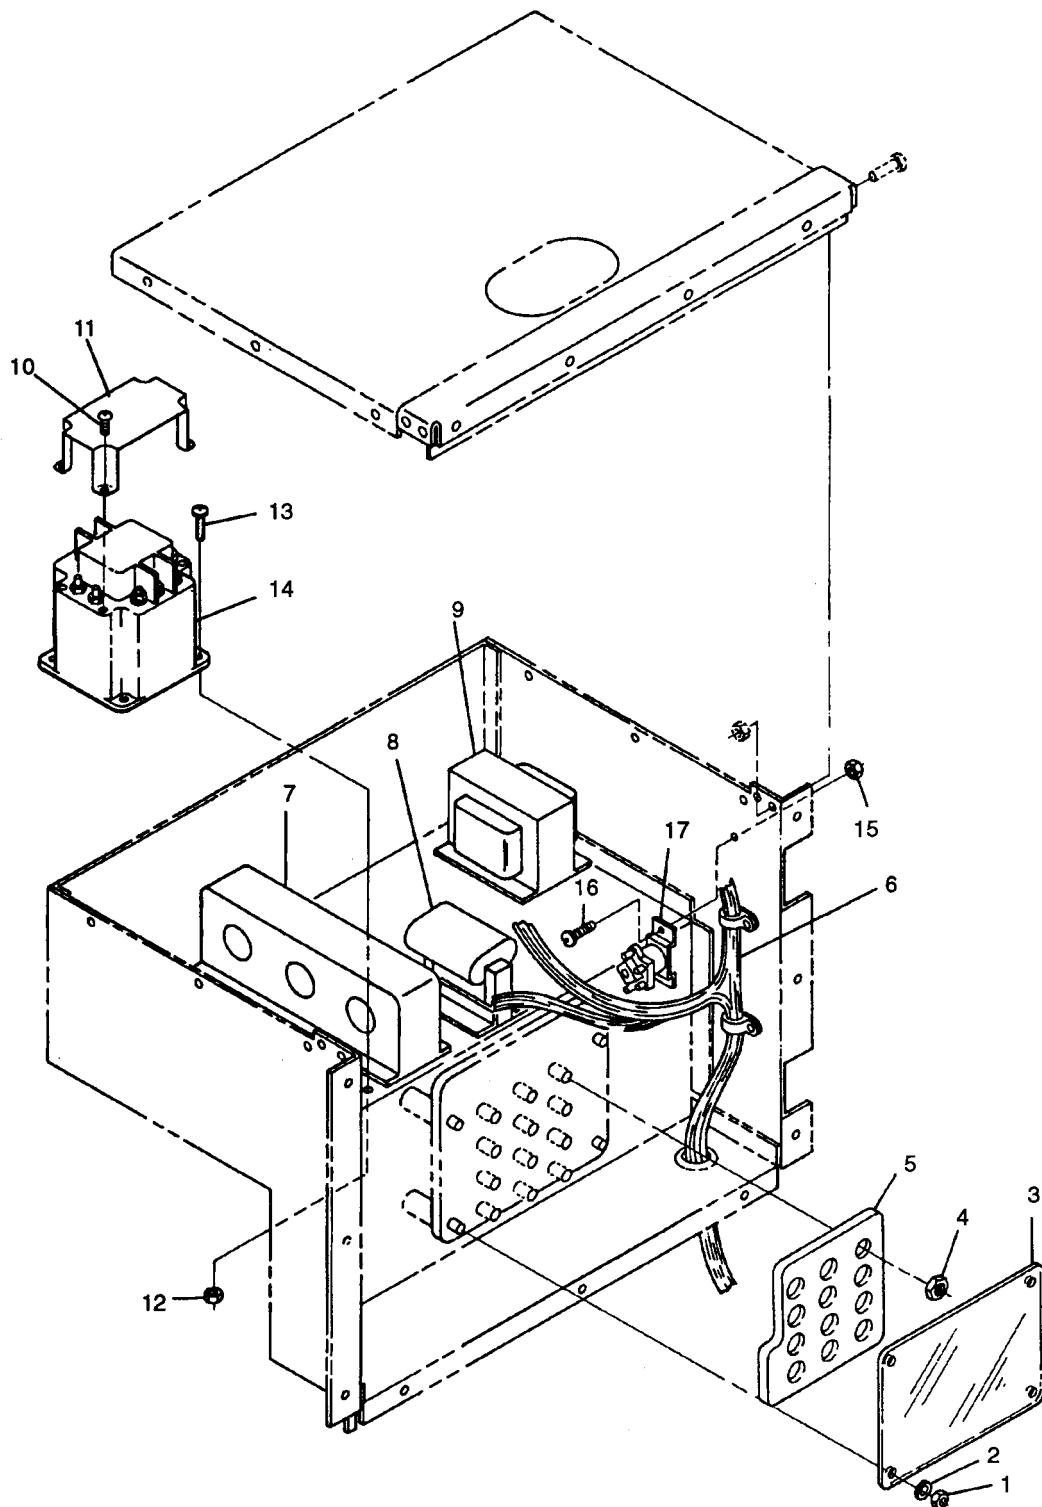

FIGURE 2-28. Output Box Assembly
- c. Inspect protective cover (3, FIGURE 2-28) and moveable terminal board (5) for cracks, breaks, corrosion, and other damage.
- d. Remove nuts (1, FIGURE 2-28), washers (2), and protective cover (3) from voltage reconnection terminal board assembly.
- e. Remove nuts (4) and moveable terminal board (5) from voltage reconnection terminal board assembly.
- a. Install moveable terminal board (5, FIGURE 2-28) on voltage reconnection terminal board assembly with nuts (4).
- b. Install protective cover (3) on voltage reconnection terminal board assembly with washers (2) and nuts (1).
- b. Inspect wiring harness (6, FIGURE 2-28) for burned, bent, corroded, and broken terminals.
- c. Inspect current transformer (7, FIGURE 2-28) for security, cracked housing, broken or stripped terminals, and loose or missing hardware.
- d. Tag and disconnect electrical leads from current transformer (7, FIGURE 2-28) secondary terminals.
- c. Inspect droop current transformer (8, FIGURE 2-28) for cracked housing, security, broken wire terminals, loose or missing hardware, and other damage.
- c. Inspect power potential transformer (9, FIGURE 2-28) for security, cracked housing, broken wire terminals, loose or missing hardware, and other damage.
- c. Inspect AC circuit interrupter relay (14, FIGURE 2-28) for security, cracked housing, broken wire terminals, and other damage.
- d. Remove screws (10, FIGURE 2-28) and cover (11) from AC circuit interrupter relay (14).
- e. Tag and disconnect AC circuit interrupter relay (14) electrical leads.
- f. Remove screws (13), nuts (12), and AC circuit interrupter relay (14) from output box.
- a. Install AC circuit interrupter relay (14, FIGURE 2-28) in output box with screws (13) and nuts (12).
- c. Install cover (11) on AC circuit interrupter relay (14) with screws (10).
- c. Inspect cranking relay (17, FIGURE 2-28) for security, cracked housing, broken wire terminals, and other damage.
- d. Tag and disconnect wires from terminals X1, X2, and A2 of cranking relay (17, FIGURE 2-28).
- d. Tag and disconnect cranking relay (17, FIGURE 2-28) electrical leads.
- e. Remove screws (16), nuts (15), and cranking relay (17) from output box.
- a. Install cranking relay (17, FIGURE 2-28) with screws (16) and nuts (15).